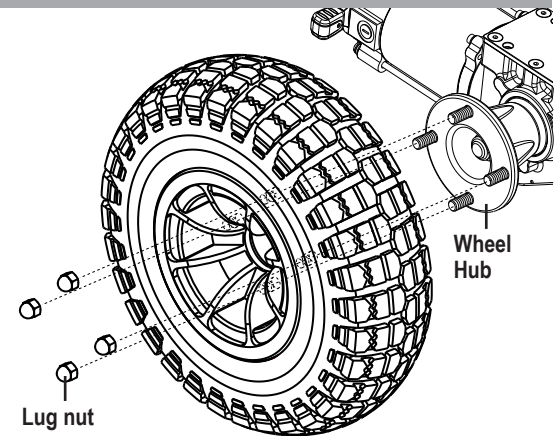

Figure 17. Drive Wheel
4. Remove the four (4) lug nuts from the wheel hub. **See figure 17.**